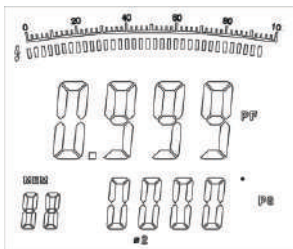

Figure 19
Then press **SEL** again to choose the second phase, see figure 19.
- Press **SEL** to choose the second phase, see figure 19.